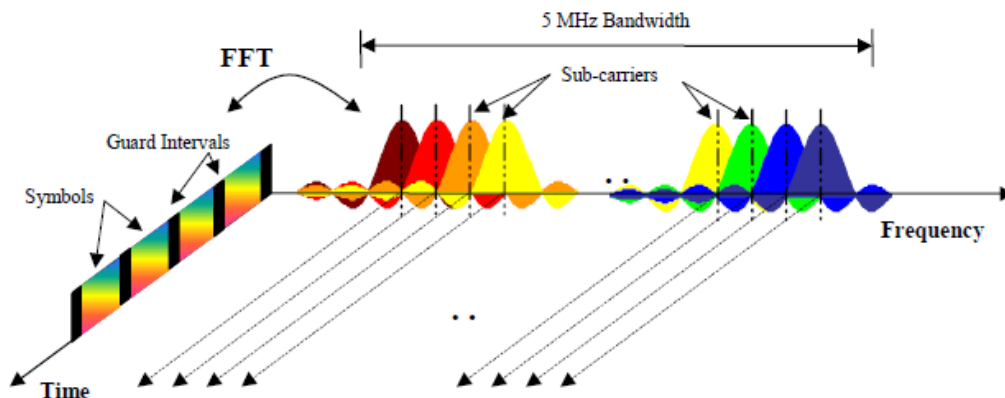

Fig. 1-1: Frequency-Time Representation of an OFDM Signal
figure 1-1 shows a representation of an OFDM signal taken from 3GPP TR 25.892 [2]. In this figure, a signal with 5 MHz bandwidth is shown, but the principle is of course the same for the other EUTRA bandwidths. Data symbols are independently modulated and transmitted over a high number of closely spaced orthogonal subcarriers. In EUTRA, downlink modulation schemes QPSK, 16QAM, and 64QAM are available.
The vector s_m is defined as the useful OFDM symbol. It is the time superposition of the N narrowband modulated subcarriers. Therefore, from a parallel stream of N sources of data, each one independently modulated, a waveform composed of N orthogonal subcarriers is obtained, with each subcarrier having the shape of a frequency sinc function (see figure 1-1).
One downlink slot consists of $N_{\text{symb}}^{\text{DL}}$ OFDM symbols. To each symbol, a cyclic prefix (CP) is appended as guard time, compare figure 1-1. $N_{\text{symb}}^{\text{DL}}$ depends on the cyclic prefix length. The generic frame structure with normal cyclic prefix length contains $N_{\text{symb}}^{\text{DL}} = 7$ symbols. This translates into a cyclic prefix length of $T_{\text{CP}} \approx 5.2 \mu\text{s}$ for the first symbol and $T_{\text{CP}} \approx 4.7 \mu\text{s}$ for the remaining 6 symbols. Additionally, an extended cyclic prefix is defined in order to cover large cell scenarios with higher delay spread and MBMS transmission. The generic frame structure with extended cyclic prefix of $T_{\text{CP-E}} \approx 16.7 \mu\text{s}$ contains $N_{\text{symb}}^{\text{DL}} = 6$ OFDM symbols (subcarrier spacing 15 kHz). The generic frame structure with extended cyclic prefix